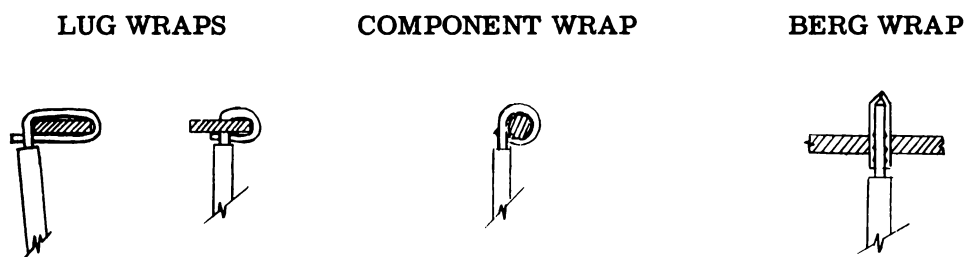

Figure 3-14
(1) Land terminations will be made by using a berg wrap terminal, P/N 3096029, or approved equivalent, crimped to the jumper. The terminal will be soldered in place using a suitable, well-tinned iron and 60-40 non-activated flux core solder.
(2) Lug and component lead connections must be clean and mechanically tight before soldering. One completely closed wrap is necessary. See Figure 3-14.
(3) All repair jumpers must be inspected for good mechanical and soldered connections.